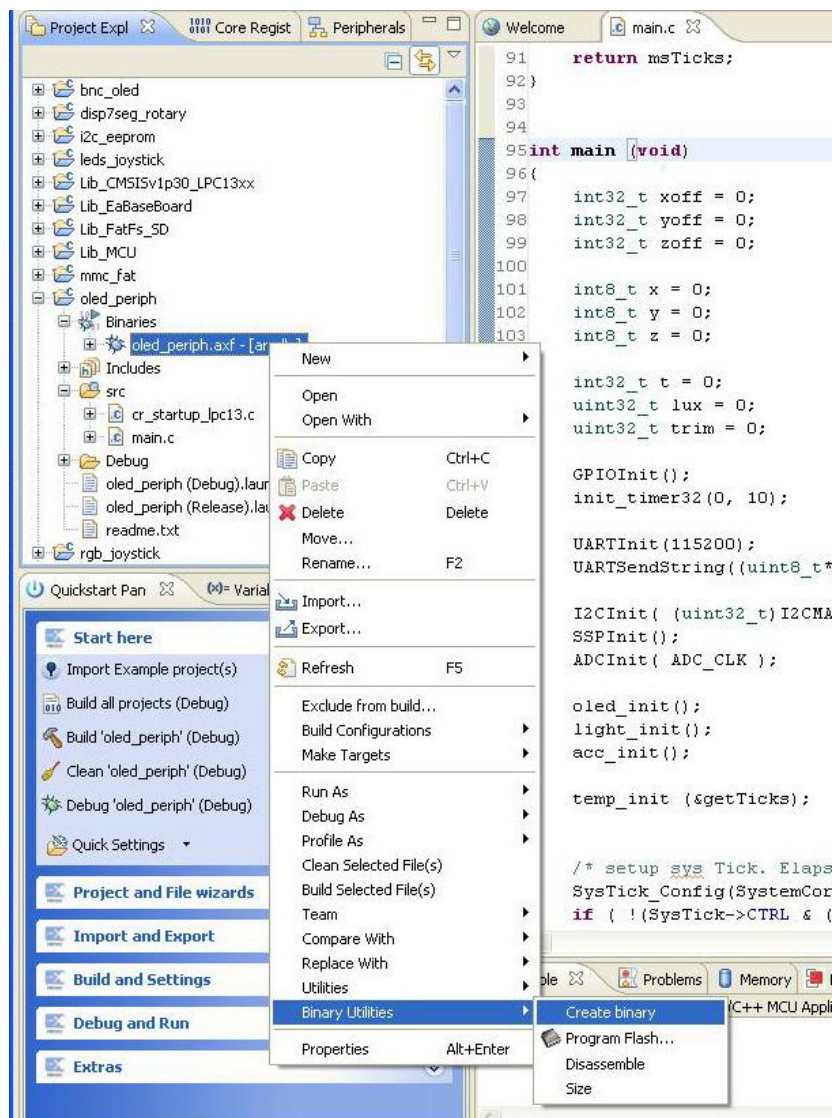

Figure 6 – LPCXpresso IDE Create a Binary File
2. Right-click on the generated axf file, go to the Binary Utilities menu and select Create binary. See *Figure 6*.